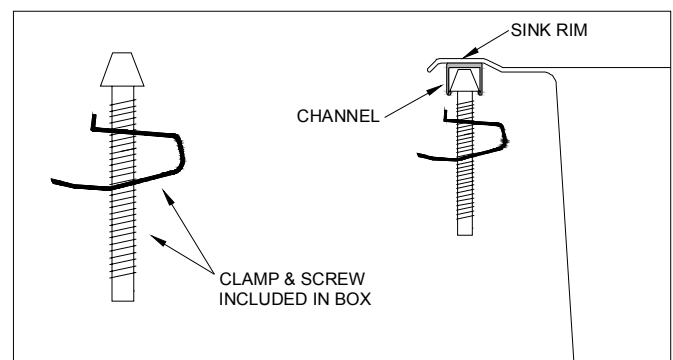

Figure 2B
- Thread screws into clamps as indicated in FIG. 2B